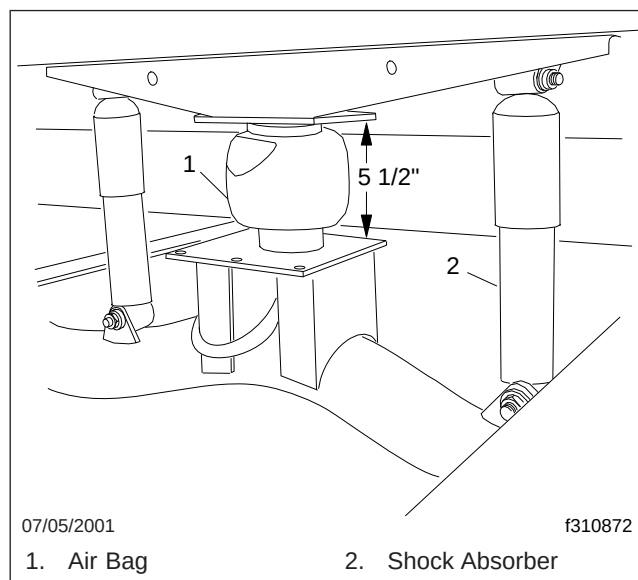
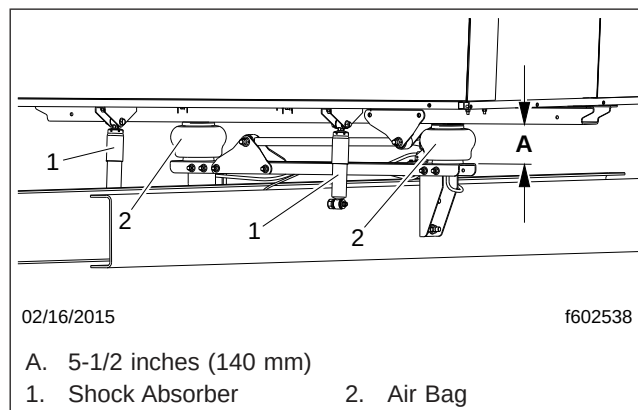
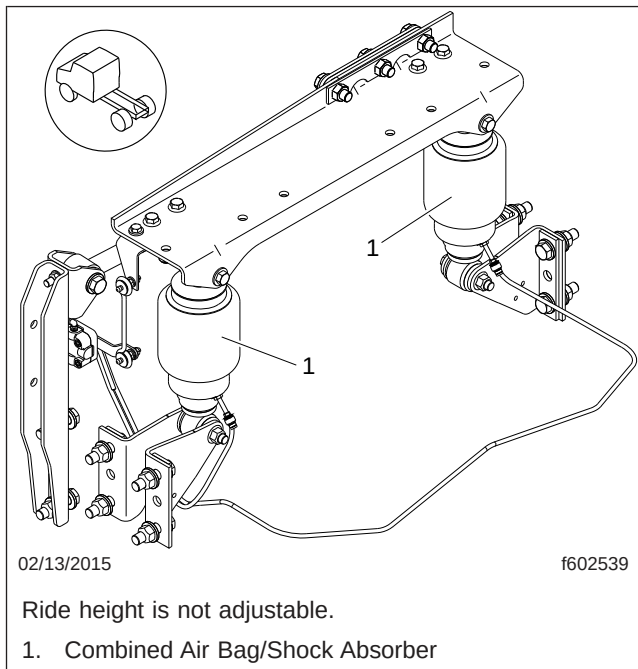

Fig. 1, Single Air Bag Cab Suspension (typical)
Fig. 2, Dual Air Bag Cab Suspension (typical)
Fig. 3, Air Bag/Shock Absorber Suspension
1. On single and dual air bag systems, inspect the air bag(s) at the rear of the cab. Check for wear, air leaks, and damage. See Fig. 1 for typical single air bag suspension, Fig. 2 for a typical dual air bag suspension. Replace damaged components if necessary.
On combined air bag/shock absorber suspension, check for wear, air leaks, fluid leaks, and damage. See Fig. 3 for air bag/shock absorber suspension. Replace damaged components if necessary.
2. On single or dual air bag suspensions, check the distance between the top and bottom air bag mounting brackets. the air bag(s) should be inflated so that the distance between the top and bottom brackets measures 5-1/2 inches (140 mm). See Fig. 1 for typical single air bag suspension, Fig. 2 for a typical dual air bag suspension.
3. Inspect the cab suspension shock absorbers for wear, damage, or leaking fluid. See Fig. 1 for single air bag suspension, Fig. 2 for dual air bag suspension or, Fig. 3 for air bag/shock absorber suspension. Replace if necessary.